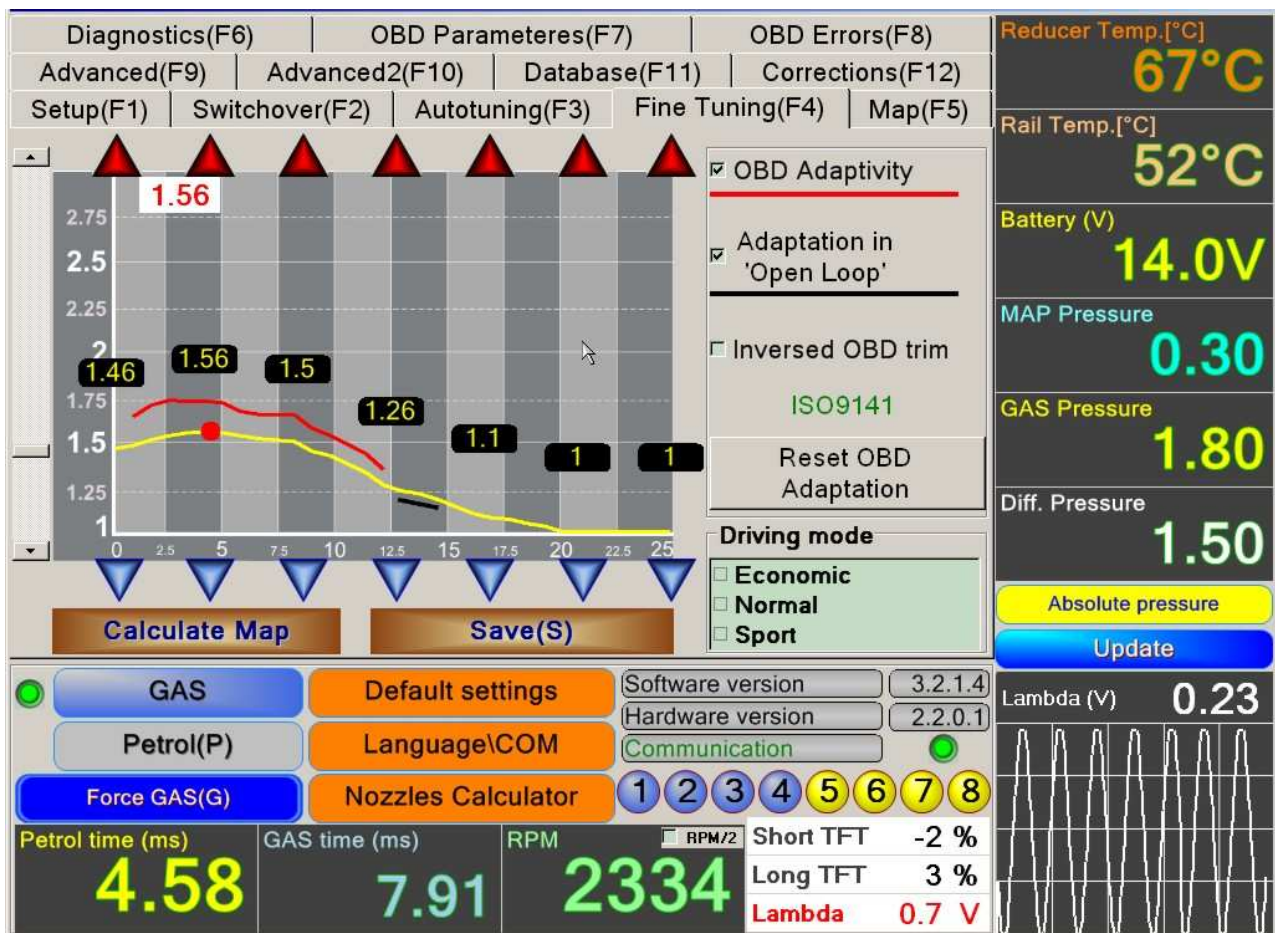

FIG.7
11. MENU “FINE TUNING” – (F4) – FIG.7
The real sign for improper sequence of the cylinder arrangement you can find when switch-over LPG/Petrol or vice versa in case the petrol injector times in “Petrol” mode and in LPG mode are equal. You can adjust this equality by using the arrows near in the “FINE TUNING” (FIG.7) menu, waiting near 10 seconds and switching over a few times Petrol/LPG. If after this procedure the engine is still shaking for a second when switchover the fuels you must check the sequence of the LPG injectors. Rarely the mistake could be from the hoses row to intake manifold, it is easy to correct by rearranging the connectors on the LPG rail.
From left to chart is added slider, which is carried out by moving the entire schedule all coefficients vertically. Activate slider by double click on the chart. (Fig.7)
From the "FINE TUNING" (FIG.7) menu use the checkbox labeled "Normal". On the screen you see coefficients; the working in each moment is colored in RED point. Ensure permanent load, RPM and throttle position (gas pedal) switch-over from "Petrol" to "LPG" and if the petrol injector times are changing, correct the colored in blue coefficient simultaneously with switching over. If the petrol time when turn over from "Petrol" to "LPG" is increased you have to increase the coefficient and vice versa till you reach the equality of these petrol times. It is recommended to use this procedure for more load conditions of the engine (at least 6-10). If you didn't manage to cover all driving modes using the arrows adjust all uncalculated coefficients near to the calculated ones. Looking over the curve, you'll try to make this curve smoother.
12. SELFADAPTIVITY /FIG.7/ On the screen 'Fine tuning' you could choose by signing the check box OBD algorithm, which allow you to adjust the gas system permanently on gas during all the driving time. The only thing you have to do in this case is to install the nozzles with proper size. After this the ECU will use factory set coefficients, modifying them all the time in all driving modes, storing them into the memory. After switching off and switching on again you could see with yellow line factory set koeff.(or the curve after manual adjustment or auto tuning). With red line you'll see the curve of the koeff. which gas ECU use, to keep the Short term fuel trimmer(STFT) close to 0%. Then you could readjust the yellow curve max. closed to the red one. This way if on some reason OBD connection is interrupted, the system will run properly adjusted. On the screen is also seen check box 'Adaptivity in Open loop', which allow you to see what have to be coeff. when the petrol ECU stop to read the O2 sensor and run using internal tables with petrol times vs. RPM and other parameters. It is usually happens over 4000 RPM and TPS more than 50%. If this check box is switched on and you drive in that mode, when close the software and open it again, it could be seen black curve, which give you information how you could adjust coeff. at high load.